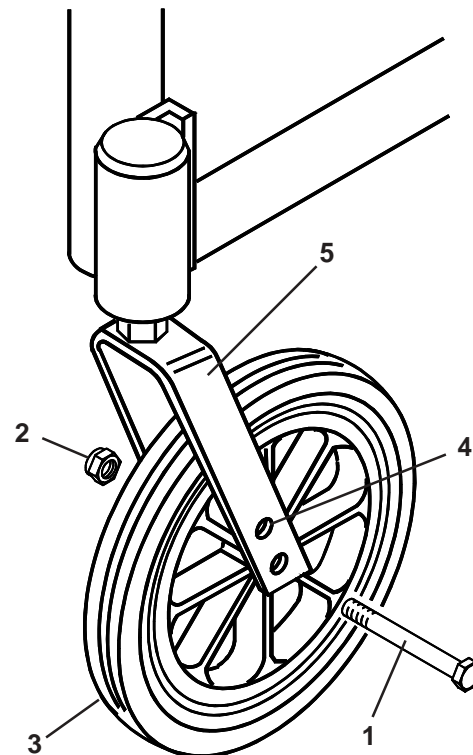

Fig. 41
Two-hole castor forks (Fig. 41) allow you to interchange 127mm (5"), 152mm (6") and 203mm (8") castor wheels and to adjust the seat height. To adjust, remove the 13mm A/F axle bolt (1) and nut (2) with 13mm A/F spanners and remove the castor wheel (3). Either change the castor wheel size and/or position the castor wheel upward or downward in the desired pre-drilled holes (4) 25mm (1") apart on the castor fork (5). Replace the bolt and tighten to 27Nm torque. Follow castor angle adjustment.